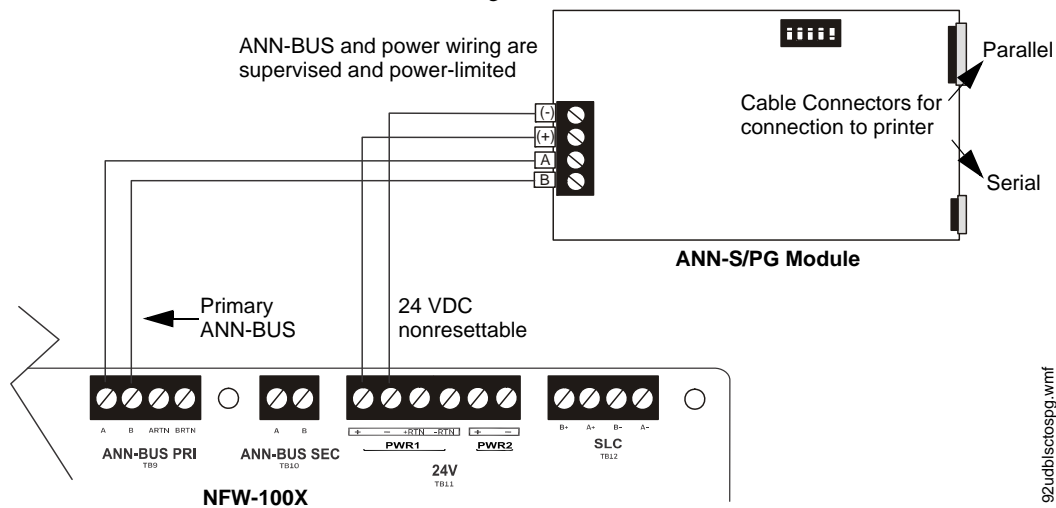

Figure 2.21 ANN-S/PG Connection to FACP
2. Connect the N-ANN-S/PG to the FACP as illustrated in Figure 2.21
5. Connect a printer to the N-ANN-S/PG Parallel or Serial connectors (refer to Figure 2.21). Only one printer can be connected.